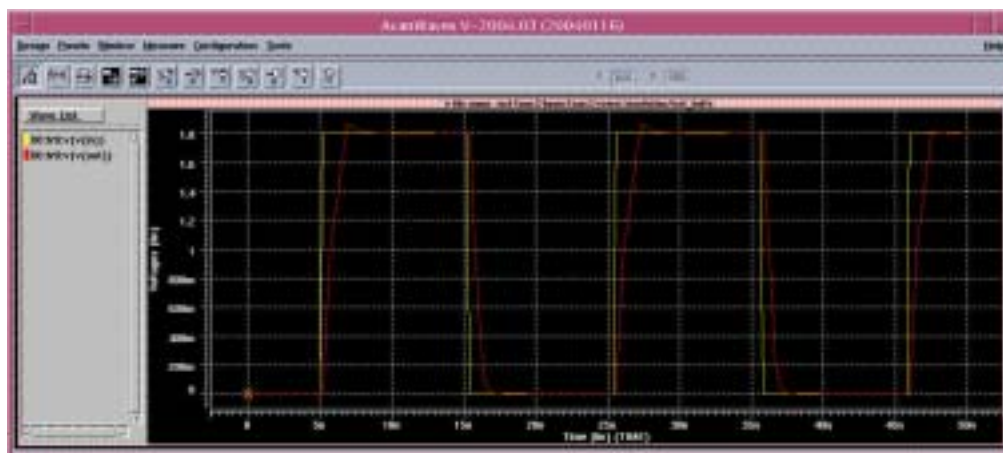

FIG. 40 Post-layout simulation result for extracted netlist
2. Run Hspice simulation and check the simulation results (Fig40).